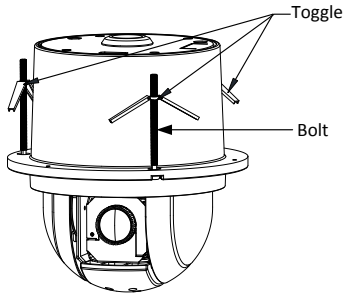

Figure 1-35 Install the Toggle Bolts
- 4). Reinstall the toggles as shown in Figure 1-35.